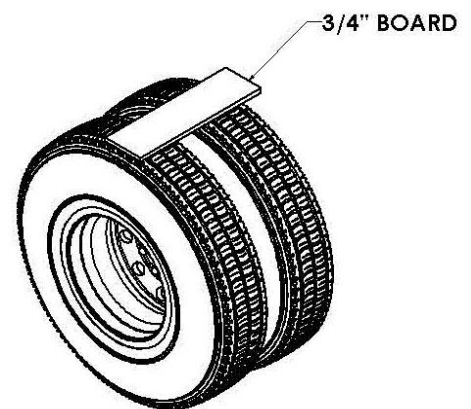

Figure 2
- a. For an air suspension system, place a  $\frac{3}{4}$ ” board on top of the tires after the air has been let out of the airbags (Figure 2). Place the fender on top of the board.